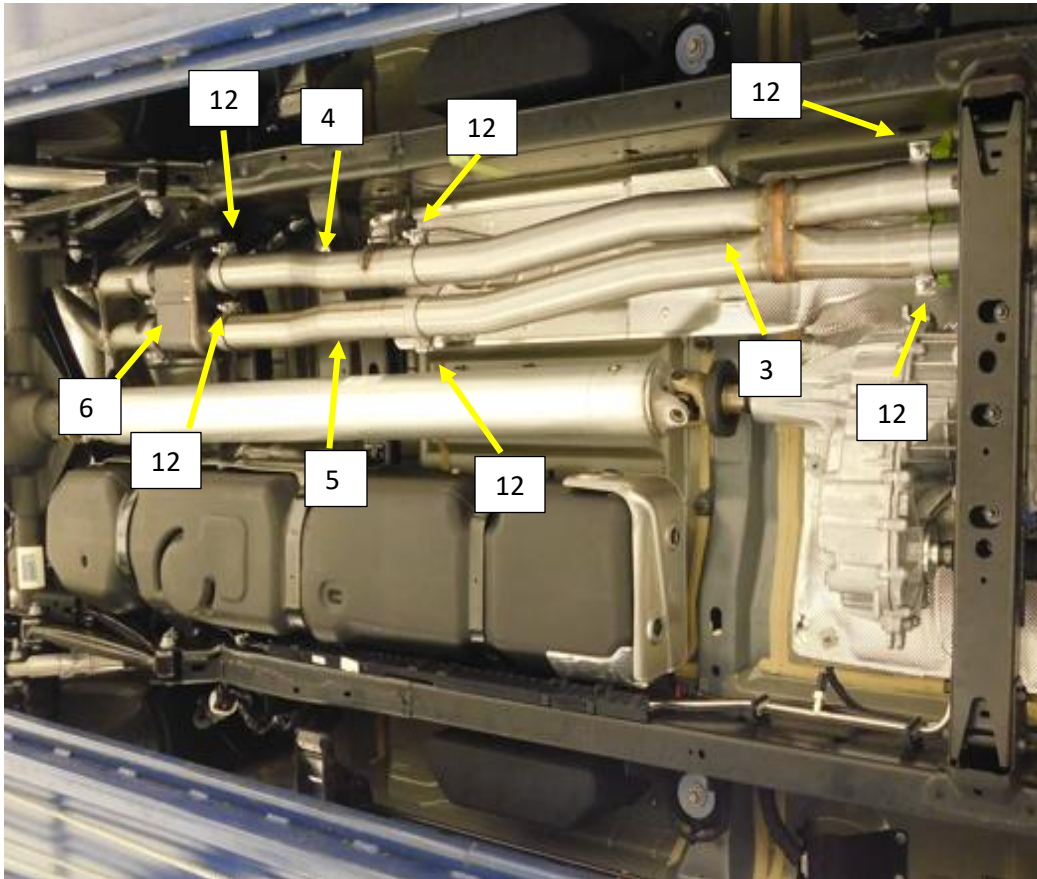

Figure.10
6. Install a 3" band clamp (12) on to each expanded and notched end of the Scvavenger pipe (3) with the bolts to the outside of the pipe and nuts facing the ground. **Fig.10**
7. Install the scavenger pipe (3) (after trimming to length if necessary) on to the down pipes with the Flowmaster logo towards the ground. Support the assembly. Tighten the clamps to allow for adjustment. **Fig.10**
8. Install a 3" band clamp (12) on to the expanded and notched end of each of the Right (4) and Left (5) muffer inlet pipes. **Fig.10**
9. Install the right muffer inlet pipe (4) on to the Scavenger pipe (3) and install the hanger rod into the Isolator on the frame. Tighten the clamp to allow for adjustment. **Fig.10**
10. Install the left muffer Inlet pipe (5) on to the Scavenger pipe (3), tighten the clamp to allow for adjustment. **Fig.10**
11. Install a 3" band clamp (12) on to each muffer (6) inlet pipe with the bolt facing away from the drive shaft and nut facing the ground. Install the muffer (6) on to the muffer inlet the pipes. Tighten the clamps to allow for adjustment. **Fig.10**